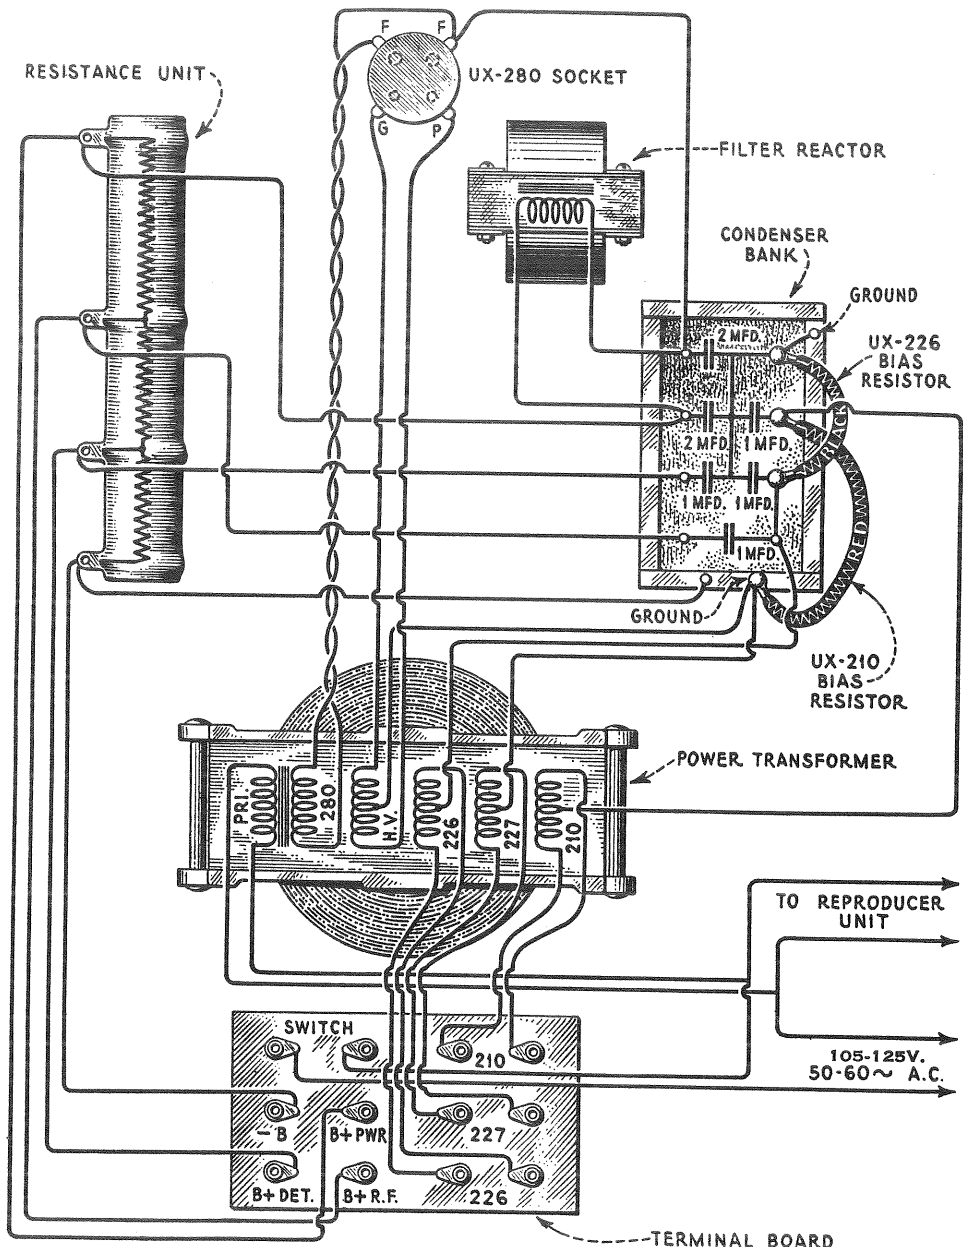

Figure 16—Wiring diagram of the Receptor S. P. U.
The filter and by-pass condensers in Radiola 41 can be checked by noting the voltage readings given in Part II, Section 20. A no-voltage reading at any position will indicate a shorted condenser or an open resistance unit. The resistance unit can be checked by the continuity tests given in Part II, Section 19. After determining that the resistance units are not a fault, the individual condensers should be tested by removing all connections and charging them and then noting their ability to retain the charge. Figures 16 and 17 show the interior connections of the condenser banks. The condensers should be discharged by shorting their terminals with a screwdriver. A defective condenser will not hold its charge. If it is completely short-circuited a flash at the condenser terminals will occur when an attempt is made to charge it.
S. P. U. CONTINUITY TESTS—Receptor—Figure 16—See Figure 8 for terminal numbers